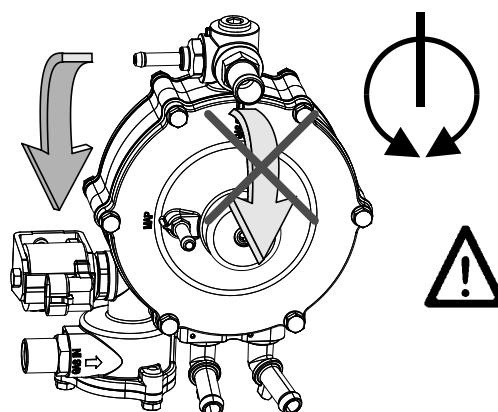

fig. r2
- Not to install the regulator upside down (adjuster screw face down, see fig. r2). Other than that, there are no particular restrictions about which way the regulator faces. If possible, it makes life less complicated if the gas joints and regulator screw are easily accessible for maintenance work;